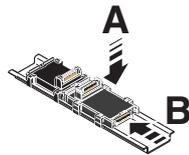

Fig. 6-6 Connecting bus base modules to each other
- First install the bus base module for the controller/bus coupler and all bus base modules necessary for the station onto the DIN rail (Fig. 6-6, A).
- Push each subsequent bus base module into the connection of the previous bus base module (Fig. 6-6, B).